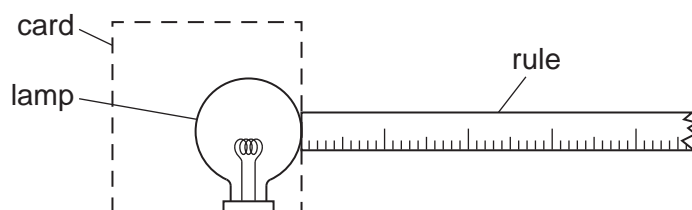

Fig. 2.1
1. The rule is to be clamped with its zero touching the outer edge of the glass surface of the lamp, as shown in Fig. 2.1.
Check that the rule and lamp are in the correct positions as shown in Fig. 2.1, with the lamp switched off.